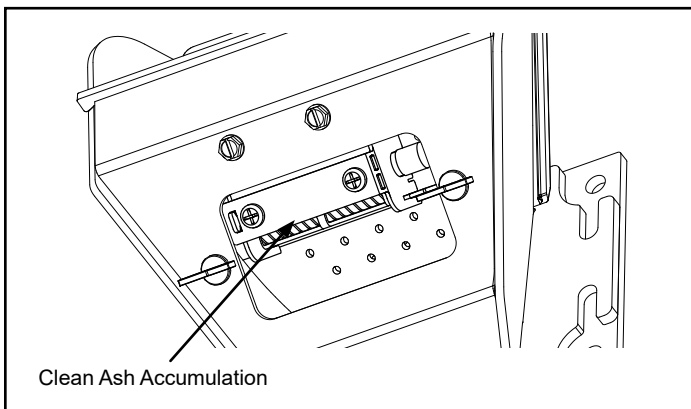

Figure 2.6
- Use the supplied allen wrench to remove any build-up that may have accumulated in the holes of the burn pot grate. Simply push the allen wrench down through each hole ensuring it is clear of any build-up paying attention not to damage the igniter element in the process. Figure 2.6.
Check cleanliness of the igniter and inner burnpot. If the igniter has ash buildup it must be removed to insure proper ignition. Use the provided brush to remove ash buildup from in and around the igniter. Once ash is loose vacuum around igniter and at the base of burn pot. Figure 2.6.